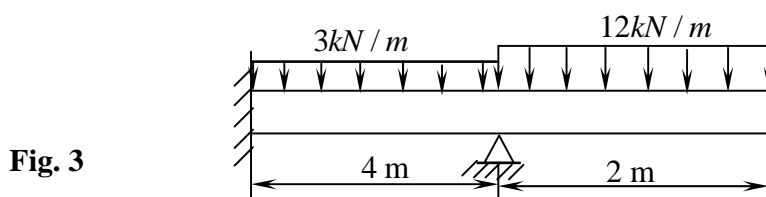

Fig. 3
- 18 The beam shown in Fig. 3, determine the unknown deflections and slopes. Also determine the vertical deflection at the mid-point of the beam having distributed load of 12kN/m. Assume $E=200 \text{ GPa}$ and $I = 4 \times 10^6 \text{ mm}^4$.